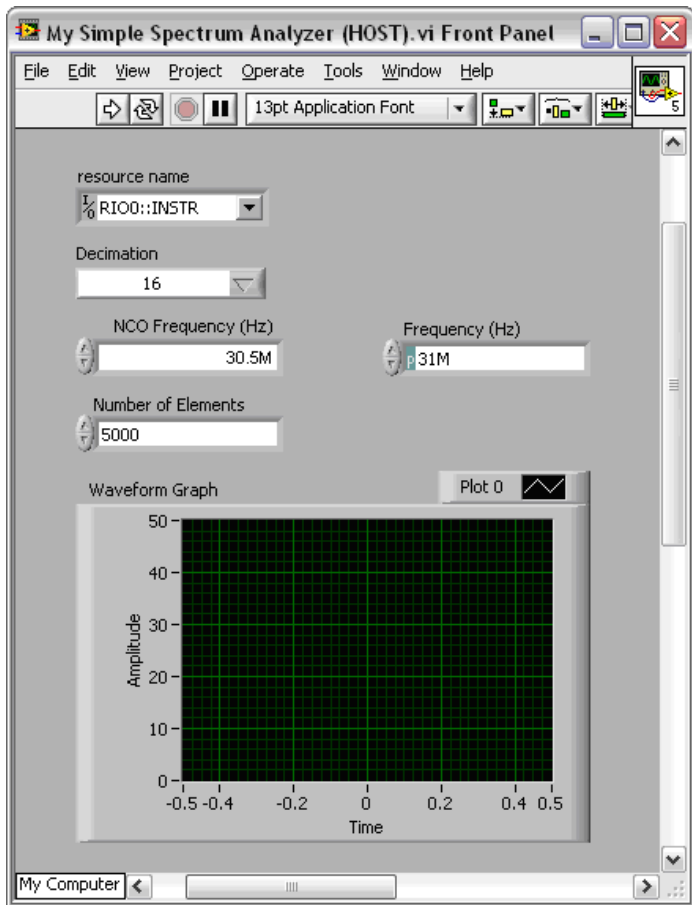

Figure 22. Host VI Front Panel
32. Populate your application with the control values shown in Figure 22.